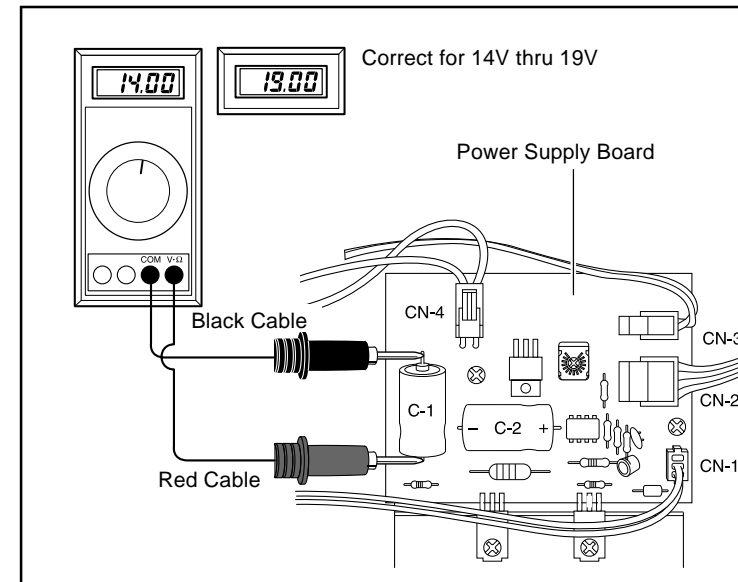

Fig. 4
2. With the control unit removed, connect the AC adapter, and turn on the power switch. Measure the voltage across the electrolytic capacitor C1 on the power supply board (25V 1000 μ V). (Fig. 4)
Replace the power supply board. (See the Section ES-3 "Replacing the Power Supply Board." "Fig. 4